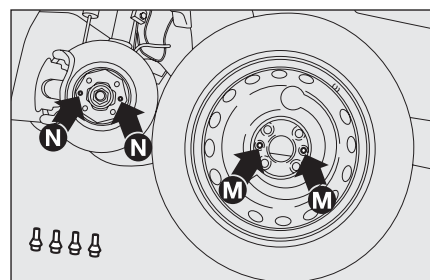

fig. 15
- ☐ fit the space saver spare wheel making the holes **M**-fig. 15 coincide with the corresponding centring pins **N**;